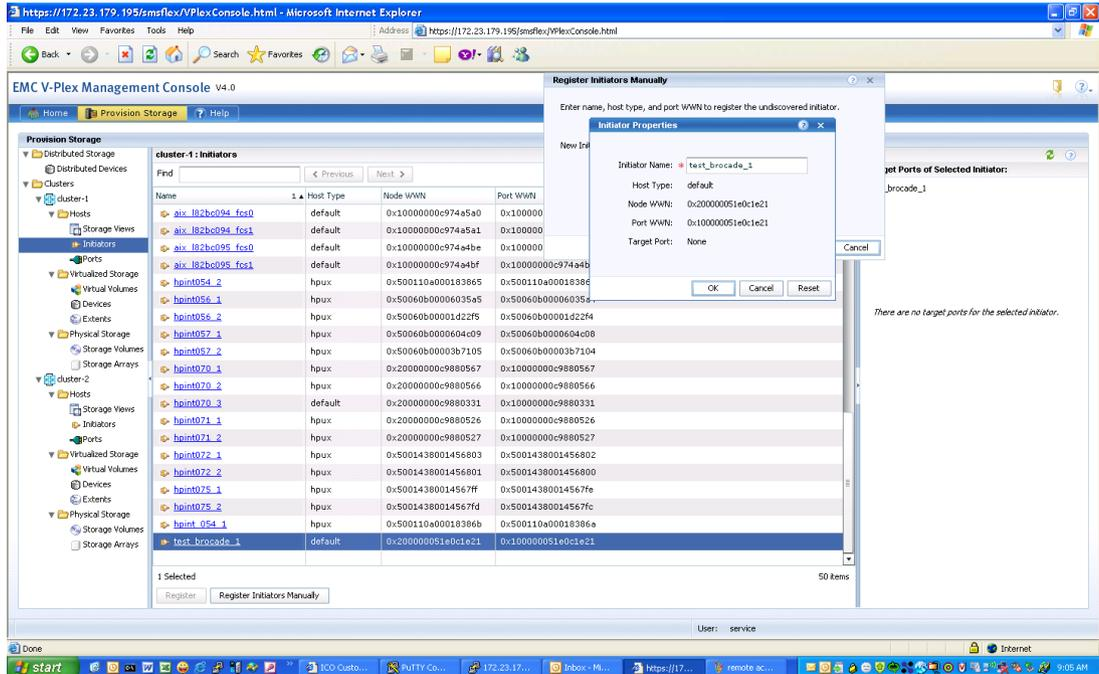

Figure 19 Register initiators
2. Registering initiators, as shown in Figure 19.